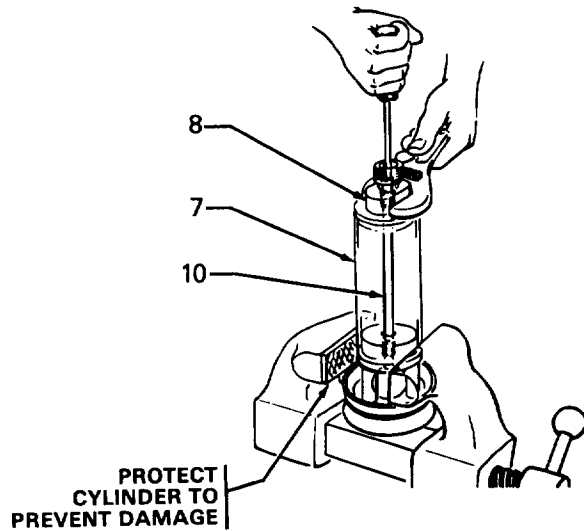

Fig 4
Adjust the valves as follows: Disassemble the pump as explained on page 4. Place the piston in a vise. Be sure to protect the surface of the cylinder (7). See Fig 4. Loosen the upper plunger cap (8) to relieve tension on the plunger bolt (10). Adjust the plunger bolt for the desired ball travel and retighten the upper plunger cap securely. Set the intake valve pin (21) as desired and reassemble the pump as explained on page 4.